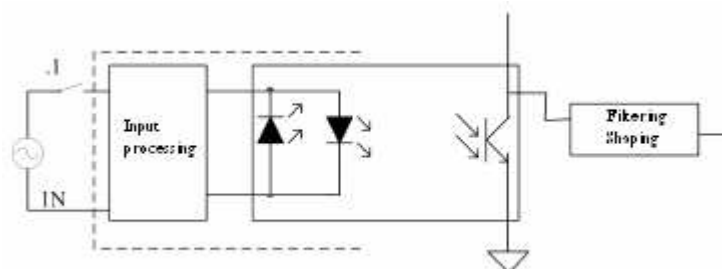

Figure 3-1-4 LM3211 Input Channel (DI) Equivalent Circuit
- Input channel (DI) equivalent circuit shown in Figure 3-1-4.